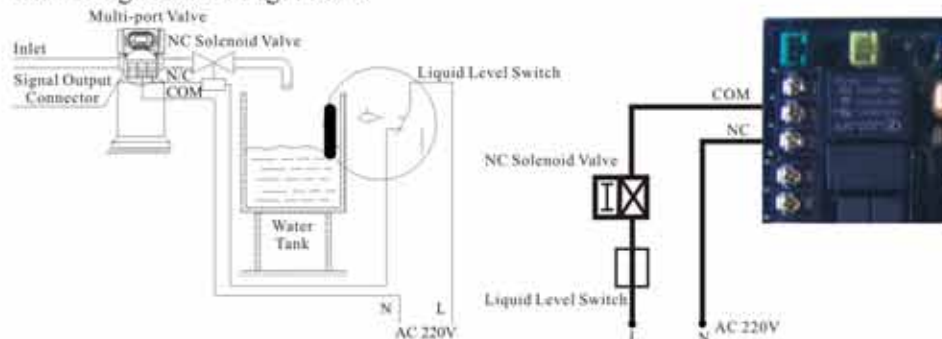

Figure 3-1 Wiring of Solenoid Valve on Outlet
① Solenoid valve on outlet controls water level in brine tank.
**Instruction:** If system strictly require no hard water flow from outlet in regeneration cycle( Mainly for no hard water flow out when valve is switching or valve in backwash or brine drawing position), a solenoid valve could be installed on outlet, the wiring refers to Figure 3-1.